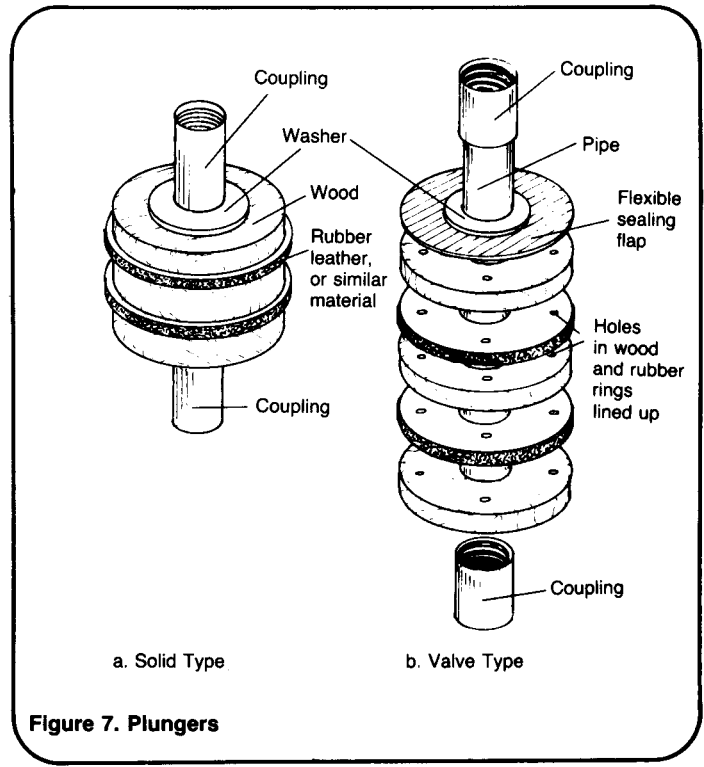

Figure 7. Plungers
1. Attach a surge plunger, solid or valve type, to a shaft and lower it down the well casing. See Figure 7. The shaft should be longer than the depth of the well so that if it is dropped, part of it will stick up out of the casing and be easy to remove.